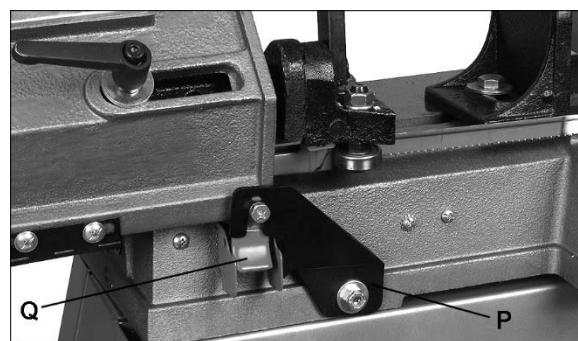

Figure 5-4
1. Remove shipping bracket (P, Figure 5-4) and adjust switch trip (Q) so that it will turn off switch when bow reaches down position. (Switch trip is bendable for optimum positioning.) Retain shipping bracket in case machine must be transported in the future.